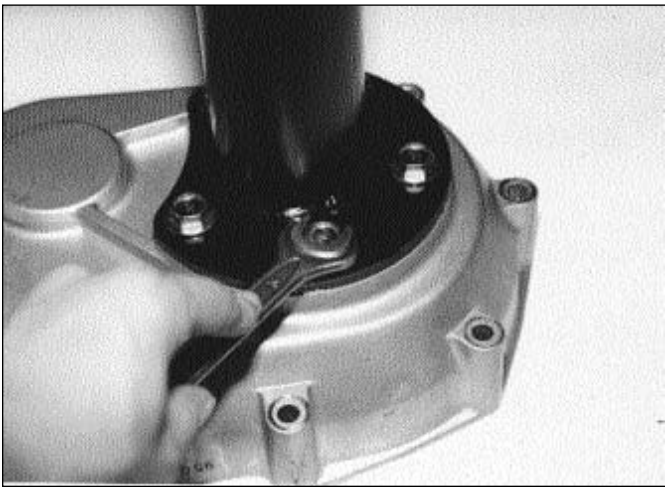

Figure 27 - Remove Axle from Case
8. Remove the axles from the gear case halves. See Figure 27.
Guide the other, splined end, of the axle shaft into the differential assembly. Bolt the axle housing flange to the gear case with five M10x23 mm bolts. See Figure 27.